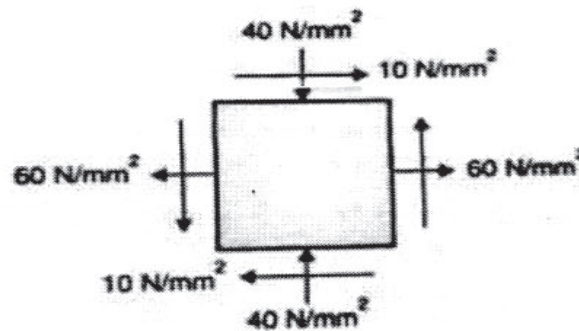

Figure 6
- Q5) a)** A plane element is subjected to stresses as shown in figure 6. Determine the principal stresses ,maximum shear stress and position of principal plane. [9]